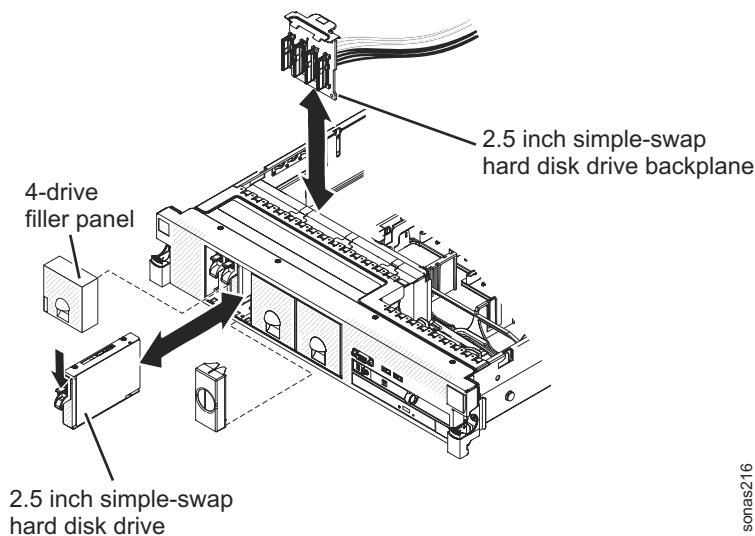

Figure 38. Simple-swap drive assembly
5. If you are replacing the 2.5 inch simple-swap hard disk drive backplane, remove it now. See Figure 38.